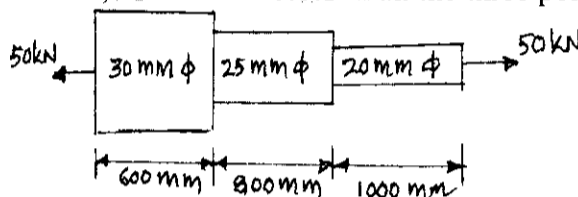

Fig. Q2(b)
- b. A bar shown in Fig. Q2(b) is subjected to an axial force of 50 kN. Calculate total elongation. Give, $E = 2 \times 10^5 \text{ N/mm}^2$. Also, calculate stresses in all the three portions. (10 Marks)